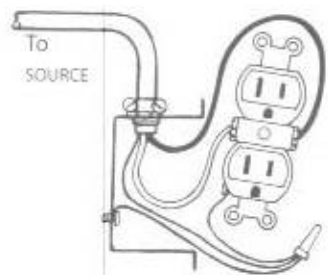
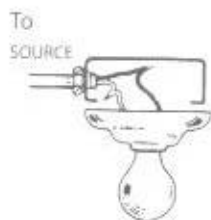

Fig. 13-20 Wiring of a new baseboard receptacle.
Fig. 13-21 Wiring for a ceiling outlet.
**Adding outlets** Figure 13-20 illustrates an added receptacle outlet, and Fig. 13-21 illustrates an added lighting outlet. The end of the cable—marked TO SOURCE—must be run to an existing outlet box which contains, in addition to the white wire, a black wire which is *always* hot. If you are in doubt as to whether one of the black wires in any box is always hot, it is a simple matter to check. Turn off the main switch. Remove the cover and the receptacle or fixture from the box from which you plan to run. Take the tape off the connections and leave the exposed ends of wire sticking out of the box. Using two solderless connectors, temporarily connect each wire to one of the leads of a neon tester of the type shown in Fig. 19-2. Now turn the main switch back on. If the tester continues to light regardless of whether the switch controlling the outlet is on or off, you have found your source for the new outlet. *Be sure to turn the power off again before working on the wires.*